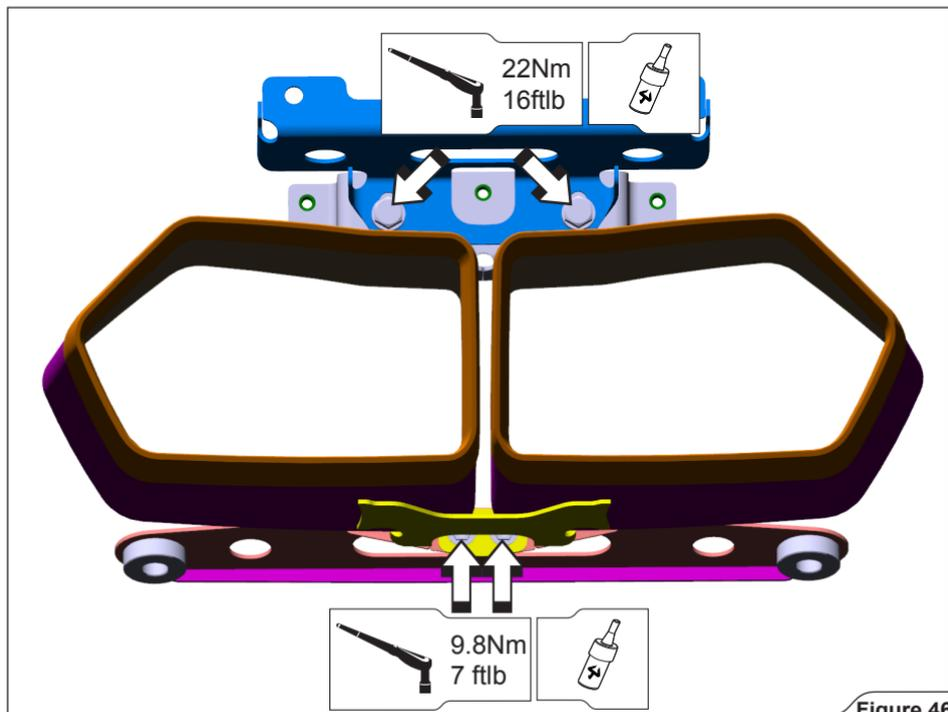

Figure 46
4. Tighten the marked tail pipe bolts (Figure 46).